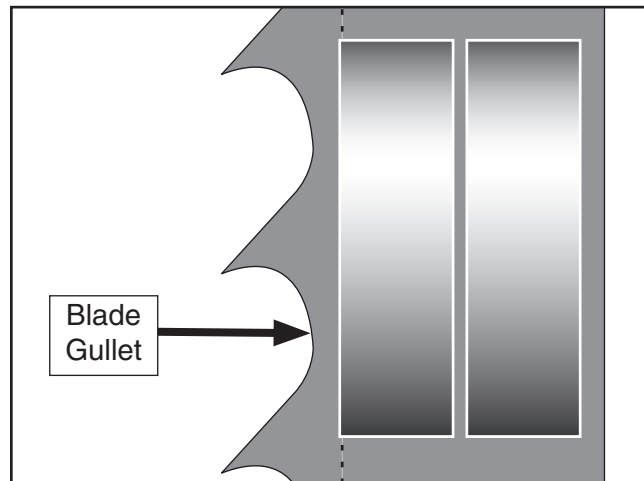

Figure 23. Lateral adjustment of blade guides.
4. Loosen the cap screw on the lateral adjustment rod and adjust the blade guides until the edges of the bearings are $\frac{1}{16}$ " behind the blade gullets, as illustrated in **Figure 23**.